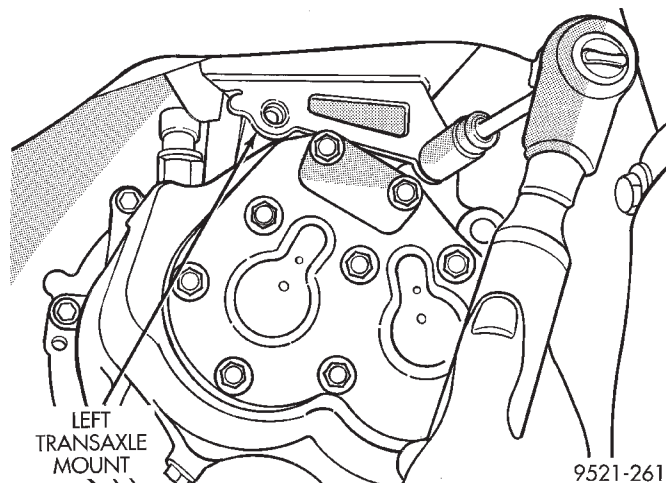

Fig. 29 Left Mount Lower Bolts
- (18) Remove left lower splash shield/battery cover.
(19) Remove left transaxle mount lower bracket bolts (Fig. 29).